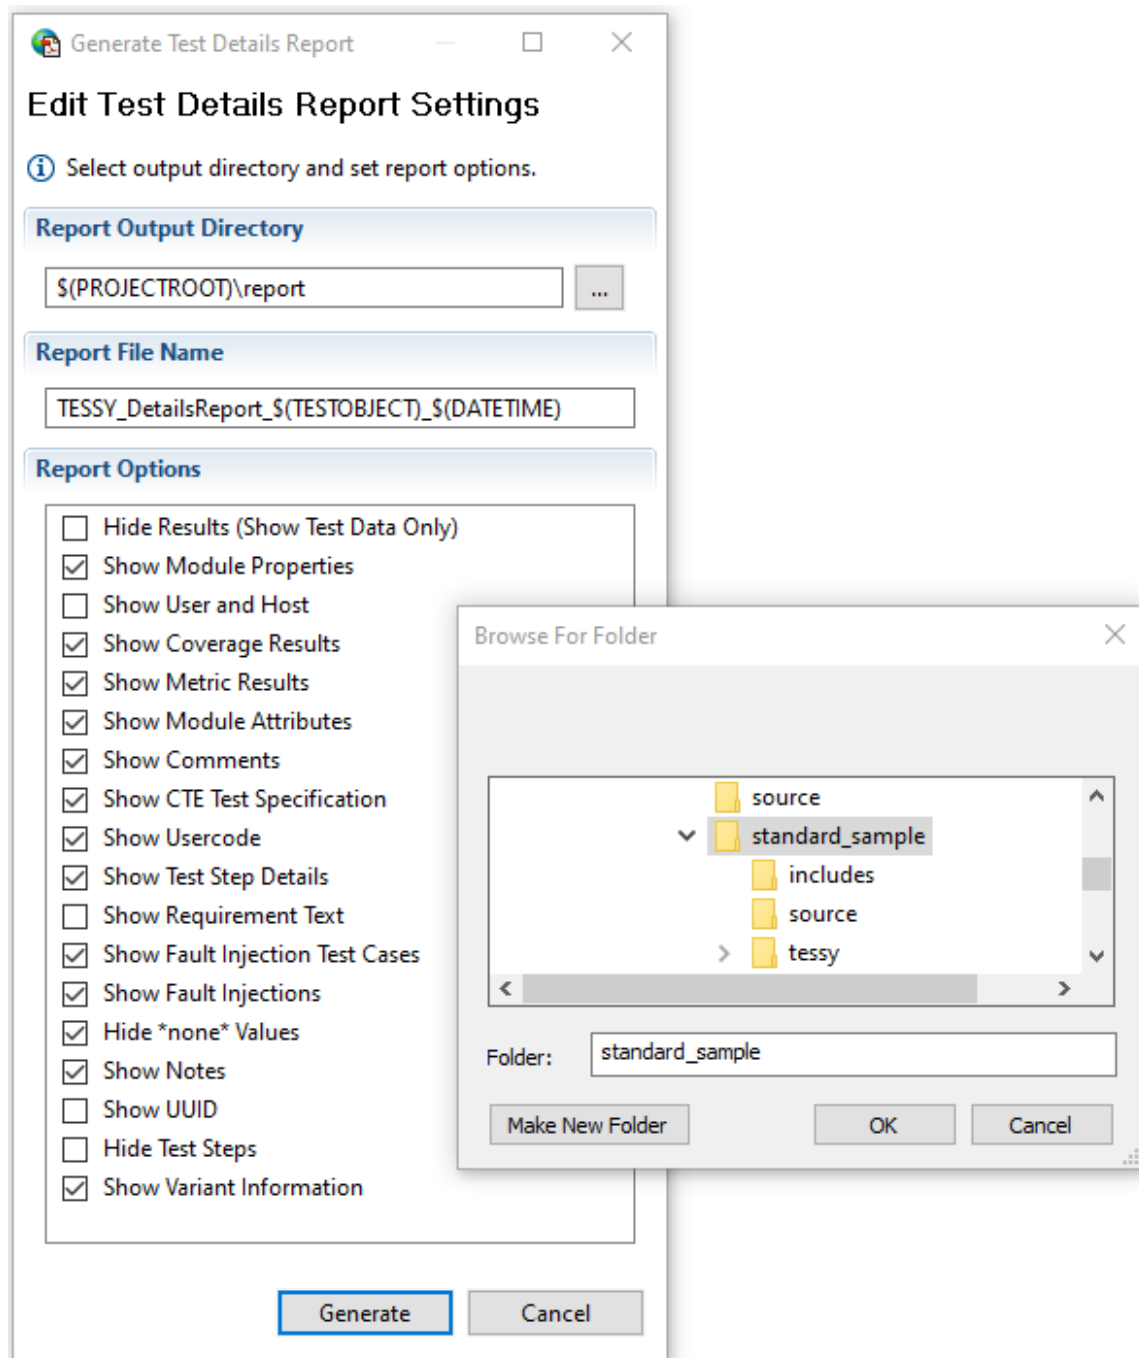

Figure 5.26: Selecting a folder or creating a new folder for Test Details Reports
- You can also change the Report Output Directory by clicking on “...” and create a new folder by clicking “Make New Folder” in the additionally opened window (see figure 5.26).